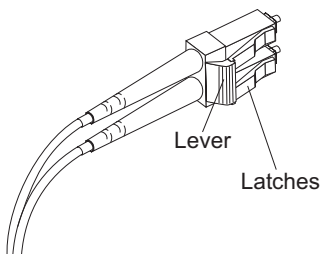

Figure 35. LC-LC Fibre Channel cable lever and latches
1. On the end of the LC-LC cable that connects into the SFP module or host bus adapter, press and hold the lever to release the latches, as shown in Figure 35 on page 56.